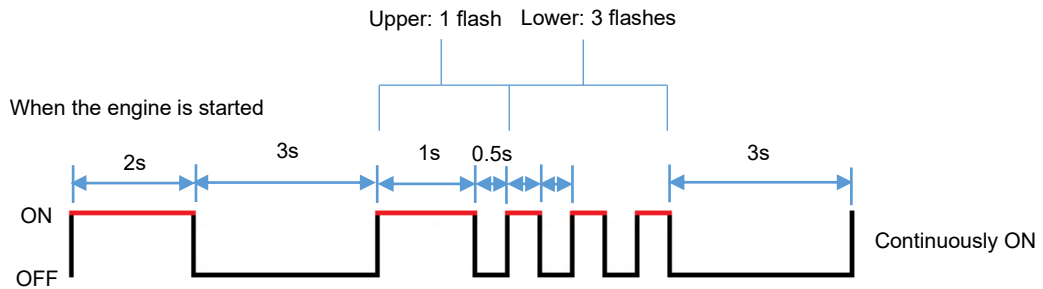

Figure 25: EGR Valve Failure
- If an EGR valve failure is detected when the engine is started, the failure indicator light will flash in a pattern of thirteen (one long flash followed by 3 short flashes) as shown in **(Figure 25)**